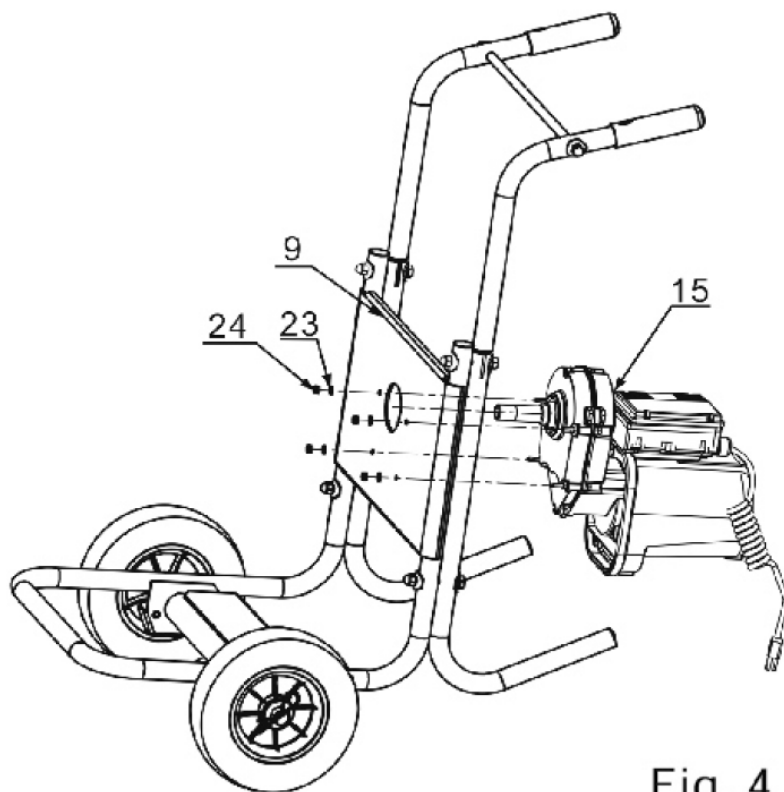

Fig. 4
4. Attach the motor and gearbox assembly (15) via the four studs through the frame (9) using washers (23) and nuts (24). (Fig. 4)